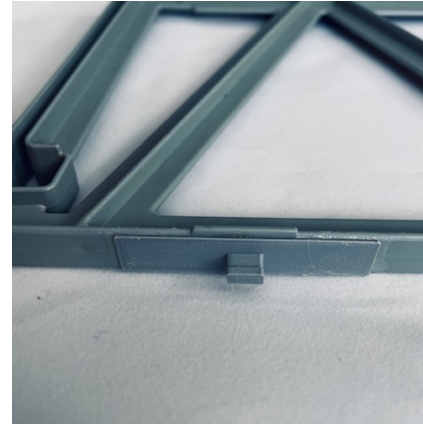

Figure 1: Elevator Side Support Tab
STEP 2: The “Elevator Side Supports” have only one regular tab on the top of each support. These are the easiest tabs to replace because the frame is slightly wider in this area and provides a good visual for placement (see Figure 1). Use the E6000 adhesive and place the appropriate tab in the proper location.